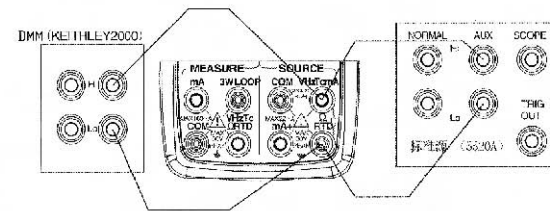

Figure 21 Adjusting resistance source
Step 1: Using the function selector switch SOURCE (FUNC) , select resistance function. Connect the lead cables for measurement to the standard digital meter as shown in Figure 21.